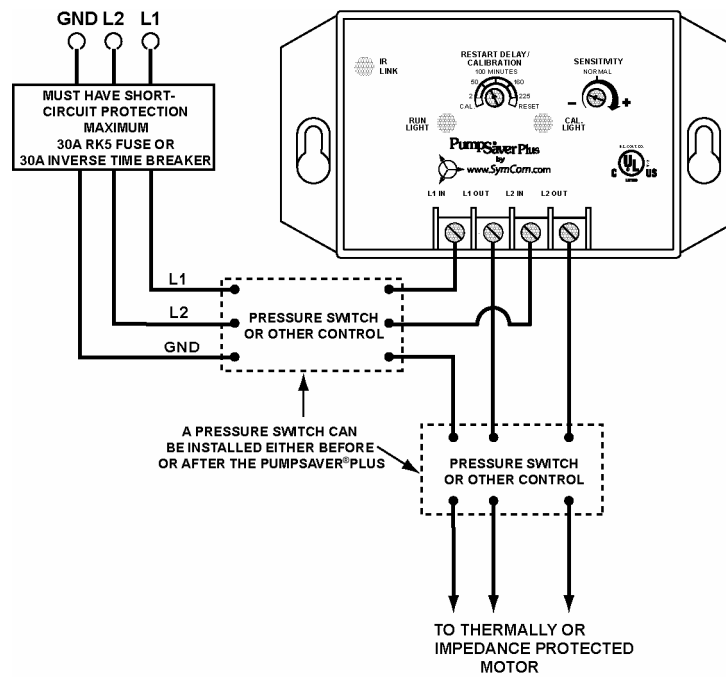

FIGURE 4: 2-Wire Pump Direct-Feed Wiring Diagram
- 2-Wire pump direct feed – Figure 4